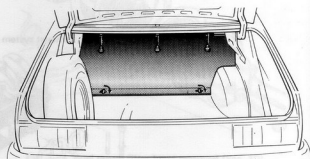

Fig. 3.41. Fuel tank trim panel securing points (Sec. 12)
- 4 Open the boot lid and release the three retaining buttons and two turn clips securing the tank trim panel, and remove the panel (Fig. 3.41).